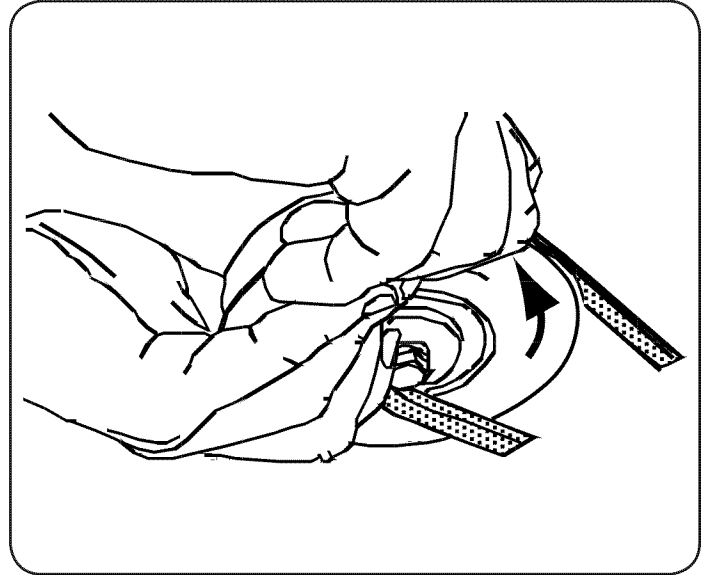

Figure 36
8. Pull the right side of the belt and place the narrow V side of the belt into the PTO pulley. See Figure 36.